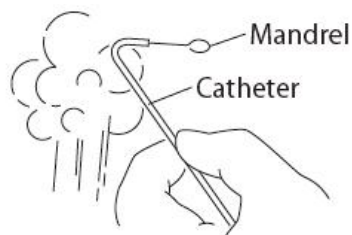

Fig. 1
2. Hold Microcatheter tip/shaping mandrel assembly approximately 25.4mm(1 inch) or no closer than 25.4mm(1 inch) from a steam source for approximately 30 seconds to form shape(Fig. 1). Multiple shaping is not recommended.